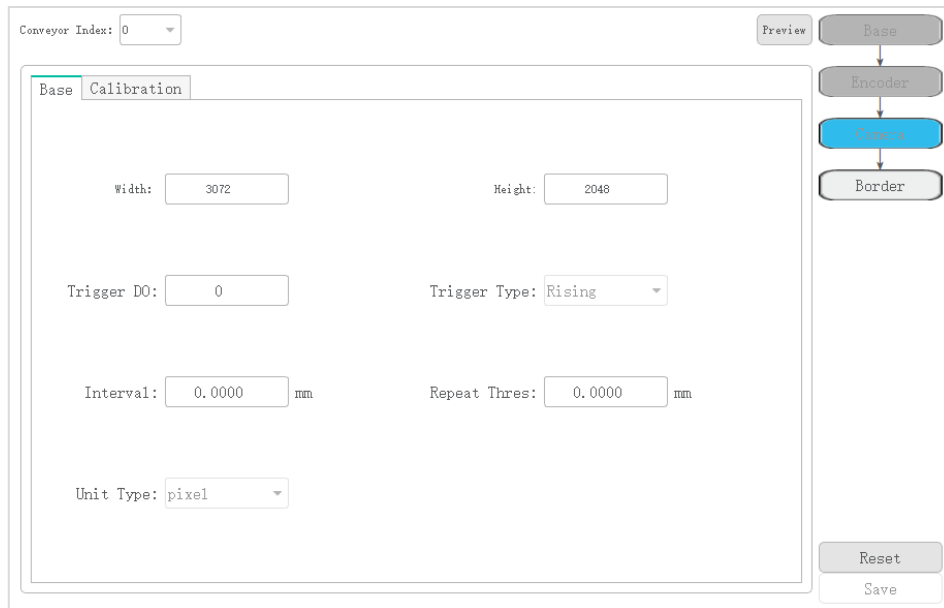

Figure 5.14 Vision system calibration page
**Step 5** (Optional) Click **Camera** to calibrate the vision system, as shown in Figure 5.14.